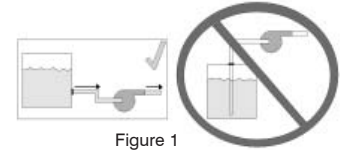

Figure 1
Your Little Giant pump is delivered to you pretested from the factory. In order to prevent damage to the ceramic impeller shaft during shipping, the impeller (item 4) has not been assembled within the pump head. The pump may be installed in any position. It may be mounted vertically with the pump head down. Proper plumbing connections should be made. See specification table to determine what size intake and discharge your pump has. Use a thread sealer on all pipe connections and hand tighten only. Note: a roll of Teflon® pipe seal tape is supplied. Do not use a wrench to tighten the connections. Excessive force may damage the plastic part. Make sure the bolts are tight before operating the pump. The motor nameplate lists all data. Make sure the pump is wired according to diagram under wiring compartment cover. These pumps are not submersible. Operate the pumps only in the in-line mode. Do not put the units in liquid. Pump should be installed in a dry area and protected from splash. These pumps are not self-priming. **IMPORTANT:** These pumps must be installed so that the pump head (volute) is flooded before starting. That is, the inlet of the pump must be below the level of the surface of the liquid being pumped. (See Figure 1.)